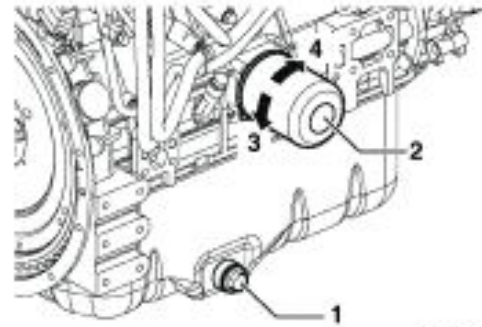

Figure 65
1. Turn the engine oil filter (2, Figure 65) counterclockwise (3, Figure 65) using a filter wrench.
3. Lightly coat the gasket on the new oil filter with engine oil. Install the new engine oil filter manually by turning it clockwise (4, Figure 65) until it contacts the mounting surface. Tighten an additional 3/4 of a turn using the filter wrench.